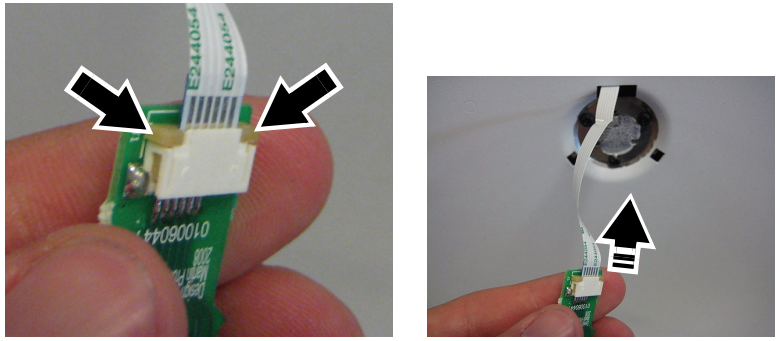
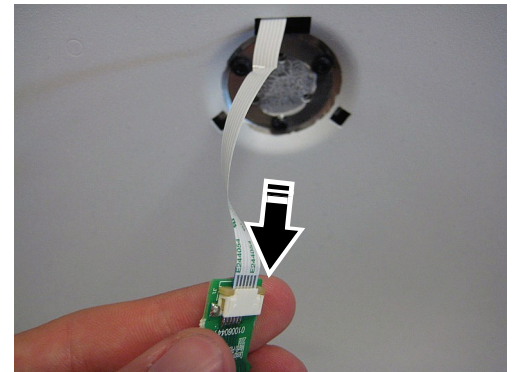

Figure 3: Release the multi-connector
Figure 5: Connect multi-connector
3. See Figure 3. Note how the bare metal on the end of the flat LED wiring strip that sits in the white multi-connector faces away from the PCB. Pull back on the two tabs (arrowed) to release the EvenLED panel wiring from the white multi-connector, then remove the old LED unit.
5. See Figure 5. Connect the wiring to the white multi-connector on the new LED unit, making sure that the bare metal on one side of the wiring faces away from the LED PCB as shown in Figures 3 and 4. Lock the wiring in place with the plugs arrowed in Figure 3.